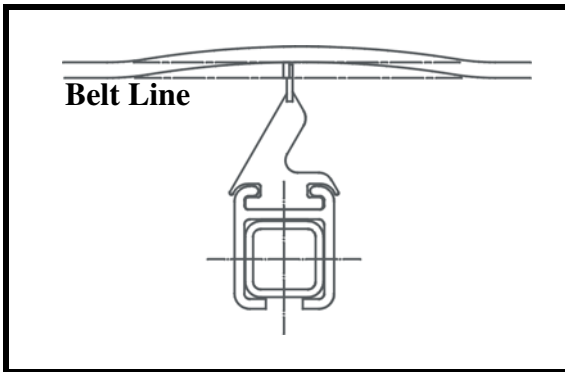

Figure 6a. Cleaner Changing Belt Line
3. Make sure cleaner is not changing belt line (Figure 6a). If it is, install belt support ahead of blade-to-belt contact point (Figure 6b).